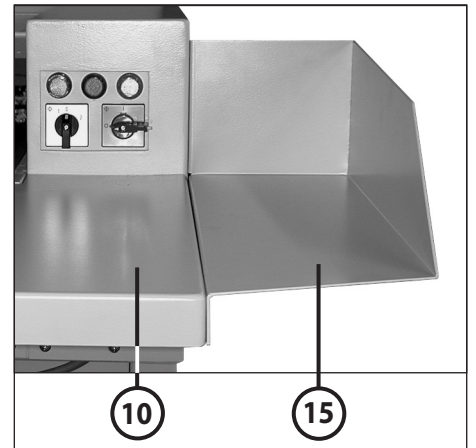
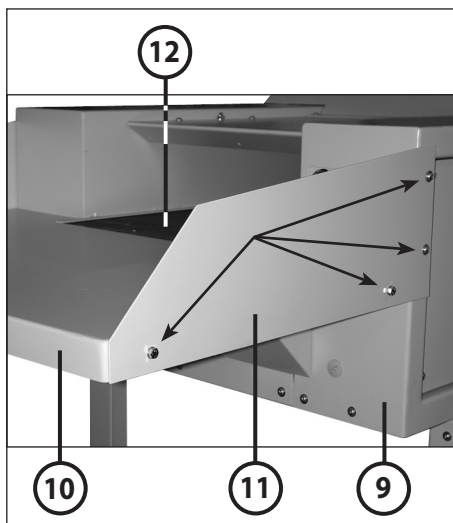
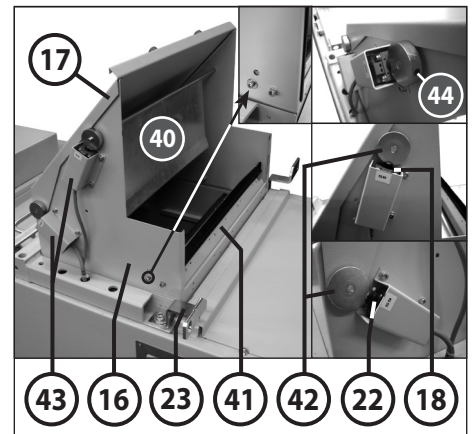

fig. 5
fig. 4
fig. 6
- 11 = guard panel (fig. 4)
- 15 = angle guard (fig. 5) (optional)
- 18 = limit switch S8 (fig. 6 and 7)
- 22 = limit switch S9 (fig. 6 and 7)
- 40 = switch flap (fig. 6)
- 41 = brush strip (fig. 6)
- 42 = switch cam (fig. 6 and 24)
- 43 = switch cover (fig. 6 and 24)
- 44 = threaded pin (fig. 6)
INSTALLATION OF THE PROTECTIVE BRACKET (15) (fig. 4 and 5):
If required, the contact surface of the table can be widened by installing two protective brackets (15) (fig. 5) instead of the two protective plates (11) (fig. 4) (see also under "SPECIAL ACCESSORIES")
1. Unscrew each of the 4 screws with washers on the side wall of the housing (9) on the left and right and on the table (10) (see arrow markings fig. 4).
2. Remove both protective plates (11) and screw the two protective brackets (15) onto the side wall of the housing (9) on the left and right and to the table (10) with the aid of the previously unscrewed screws and washers.
INSTALLATION OF THE HOPPER (16) (fig. 6):
1. Release the transport lock (binder) on the outlet flap (25) and fold the flap down.
2. Take the hopper (16) out of the press compartment, as shown, place over the filler opening and fix to the press from inside with the aid of the 7 hexagon socket screws M6x12.
3. Turn the brush strip (41) on the hopper (16) into the vertical position (brush points upwards) and fix to the hopper in this position (use lower